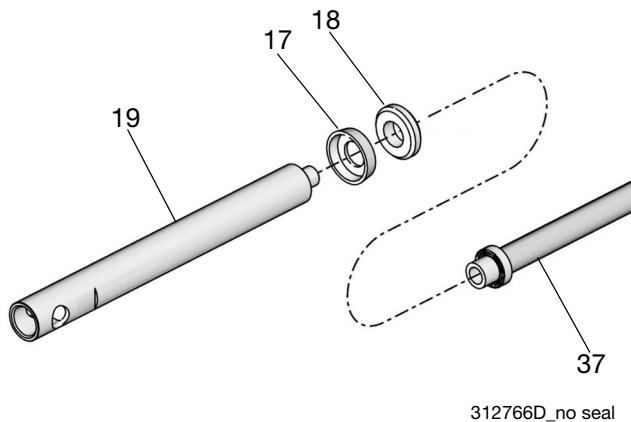

FIG. 18
- Lubricate packing (17) and bearing (18) with no. 2 lithium-based grease.
- Install the bearing (18), and cup packing (17) with the lips facing down on the pump connecting rod (37). See FIG. 18.